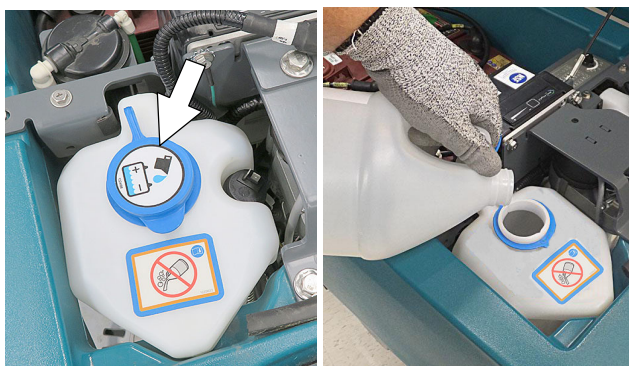

FIG. 95
12. Automatic battery watering option - Refill tank with distilled water (Figure 95). Replace cap.